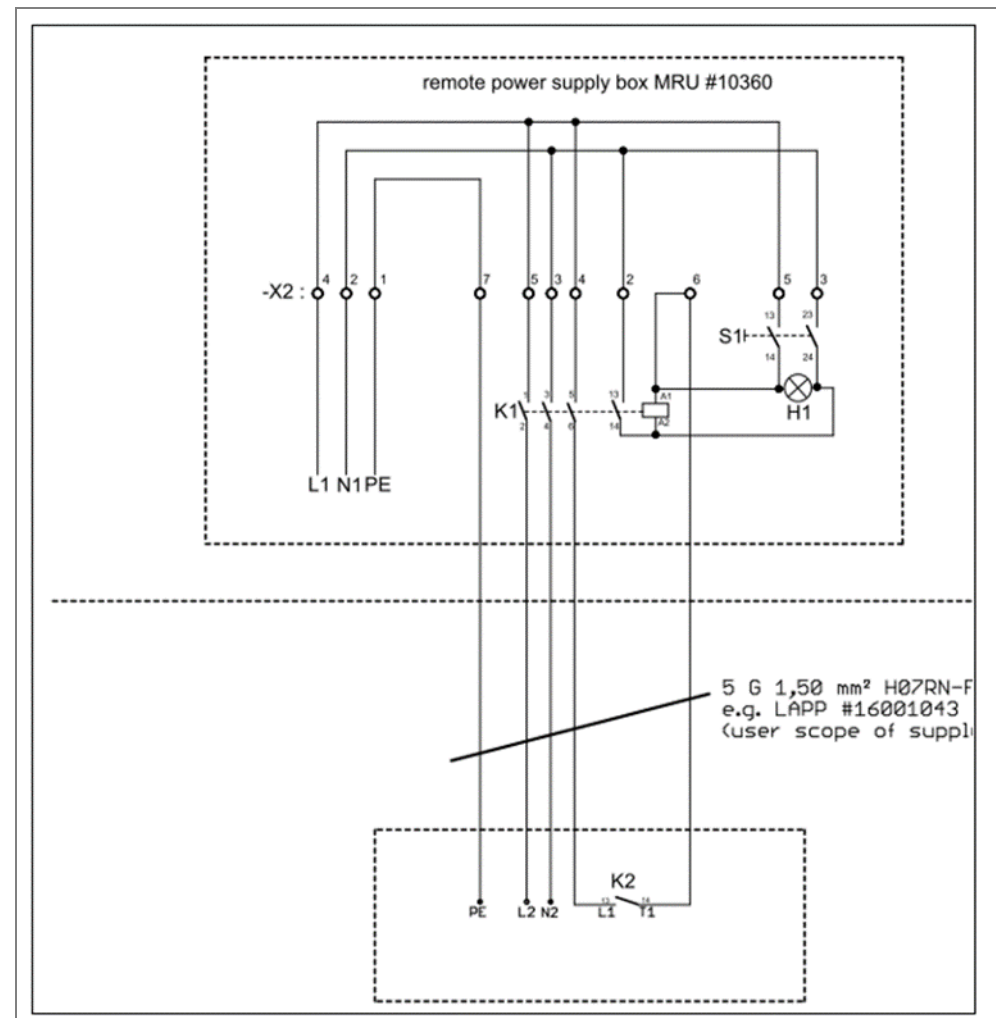

Fig.1
- ☐ Connect the 3-phase cable to the L, N and PE phases at the respective terminals in the disconnection box (Fig.1).